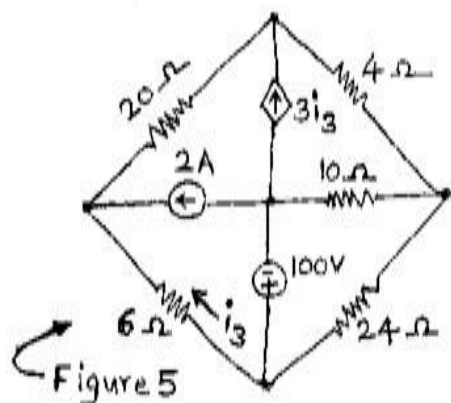

Figure 5
27. Determine i , di/dt , d^2i/dt^2 at $t=0^+$ when the switch K is moved from position 1 to 2 at $t=0$ in network shown in fig5